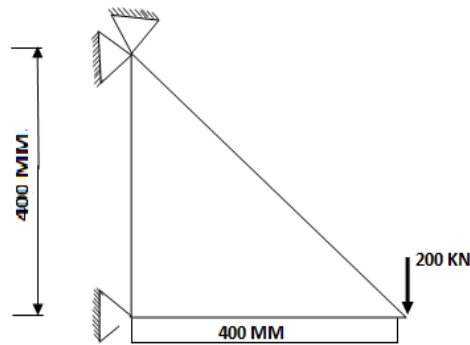

Fig. 1
- Q.4 A. Distinguish between synthetic curves and analytical curves. (4)
- B. The end points for line L_1 are $P_1 (2, 3, 5)$ and $P_2 (-4, 6, 2)$. The end points for line L_2 are $P_3 (-5, 8, 9)$ and $P_4 (1, -11, 2)$ (8)
- C. Explain different solid manipulations and its importance. (4)
- A. What are the properties of stiffness matrix? (4)
- B. Write a note on linear shape function for 1 D element. (4)
- C. 3 bar truss shown in Fig. 1. Find nodal displacements, support reactions and elemental stresses. Cross sectional area of each element is 1000mm^2 . (10)